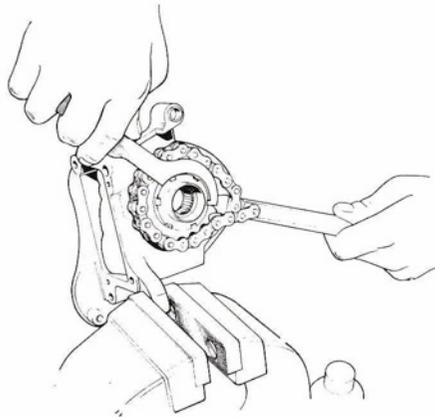

Fig. 42 Tapping lockwasher into castellations of countershaft sprocket locking ring.
- 2 Lock the countershaft sprocket with a chain wrench, or old length of chain (see Fig. 42) if the unit is out of the frame, or leave the rear chain *in situ* and apply the rear brake if the unit is in the frame.